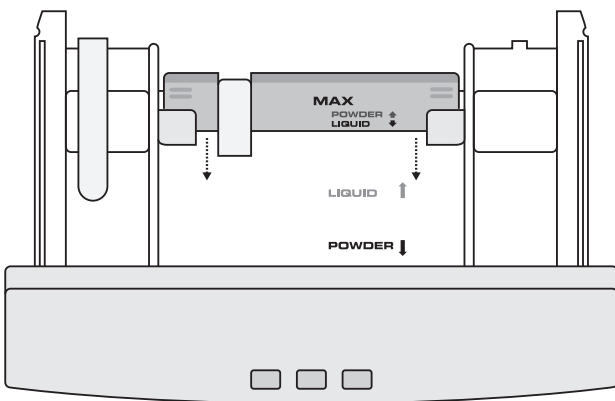

Figure 1
- **For powder detergent:** Install the divider in the front position. Put the detergent selection blue wall, that is located at the end of the dispenser, in the front position, as shown in Figure 1.